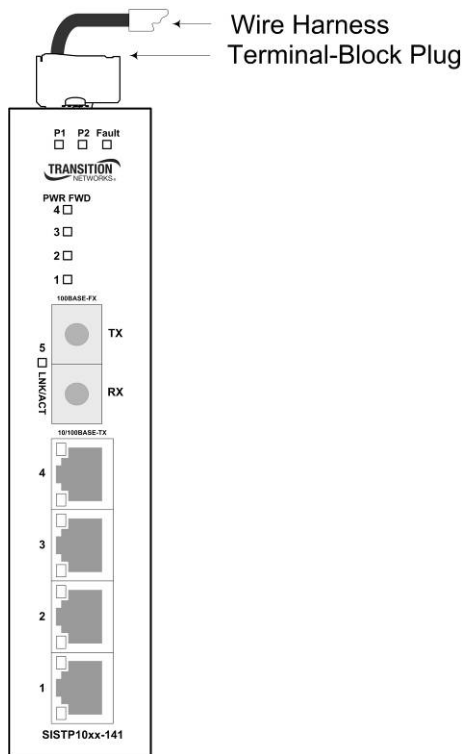

Figure 10: Wired Terminal Block Plug Inserted Into Industrial PoE Switch
6.	Insert the terminal block plug into the Industrial PoE Switch's terminal block, as shown in Figure 10.